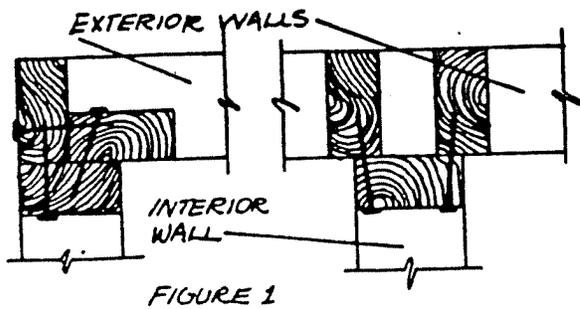

FIGURE 1
1. Lay out and mark on the subfloor, location of all exterior and interior walls. Then select 2 x 4 bottom plates for all exterior walls and cut them to length. Temporarily nail them in place (to the subfloor), with the outside edge of the 2 x 4 flush with the edge of the floor header joist. Use 8d scaffold nails, since they permit easy withdrawal. Next, position the bottom of all interior wall partitions, again tacking in place with 8d scaffold nails. By laying out all walls—both exterior and interior—you can identify all wall intersections and determine special framing required (see Figure 1).